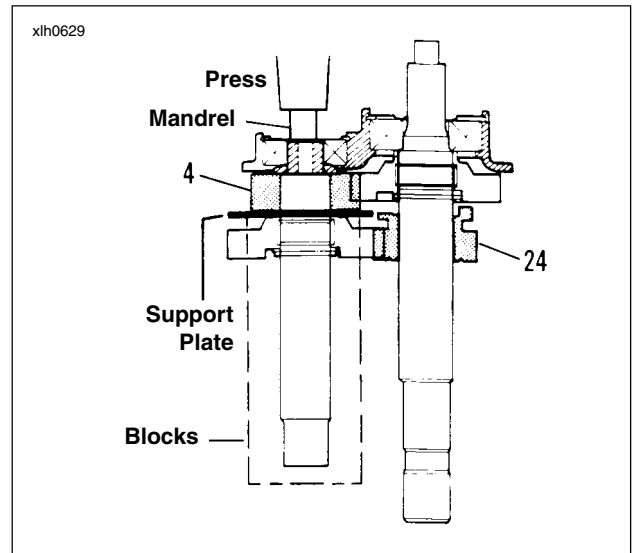

Figure 6-37.
7. See Figure 6-37. Place COUNTERSHAFT GEAR SUPPORT PLATE (Part No. HD-37404) under countershaft 4th gear (4). Place assembly on press with suitable metal blocks under the support plate. Place a socket or mandrel, smaller than inside diameter of bearing, and press countershaft free of access cover. Slide mainshaft 1st gear (24) off mainshaft.